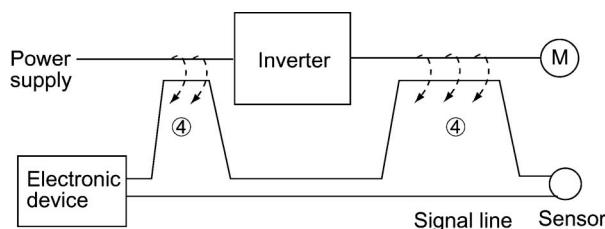
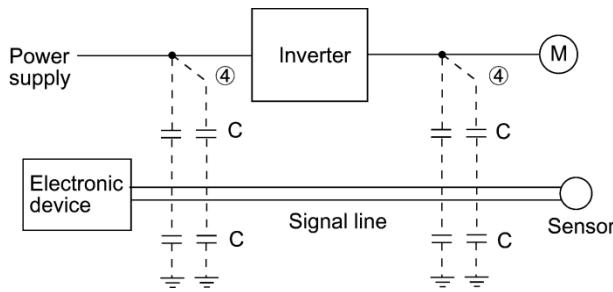

Figure A.4 Electromagnetic Induced Noise
Figure A.5 Electrostatic Induced Noise
When wires or signal lines of peripheral devices are brought close to the wires on the input and output sides of the inverter through which noise current is flowing, noise will be induced into those wires and signal lines of the devices by electromagnetic induction (Figure A.4) or electrostatic induction (Figure A.5). This is called "induction noise" ④.